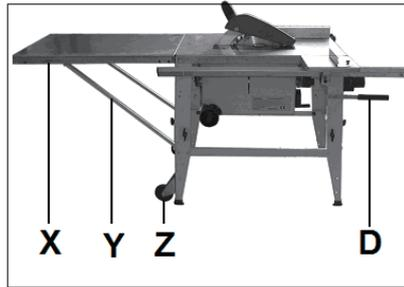

Fig 10
**Install rear extension table:** Fit the rear table extension (X, Fig 10).